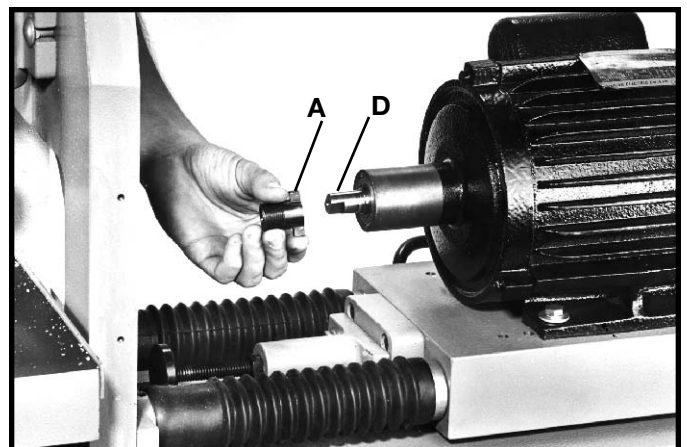

Fig. 41
5. To replace spindle coupling (A) Fig. 41, align spindle coupling with flats on tapered spindle shaft (D).
6. Using a block of wood and mallet, lightly tap on head of spindle coupling (A) Fig. 41, until it seats firmly on tapered spindle shaft (D).